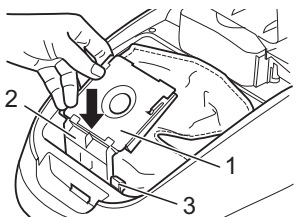

Fig. 21
7. Then reinsert the dust bag holder (Fig. 21/1) into the dust chamber. Push the guide of the dust bag holder (Fig. 21/2) straight into the rail provided for this purpose to do so, until the interlock for the dust compartment cover (Fig. 21/3) is folded back.